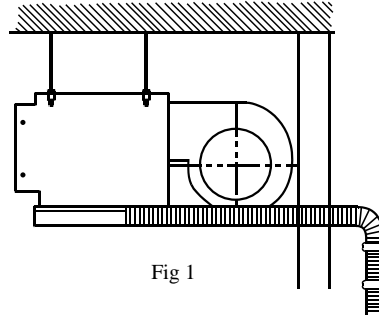

Fig 1
4. The connecting pipe between the indoor and outdoor units as well as the drain pipe shall be as short as possible. (See Figure 1)